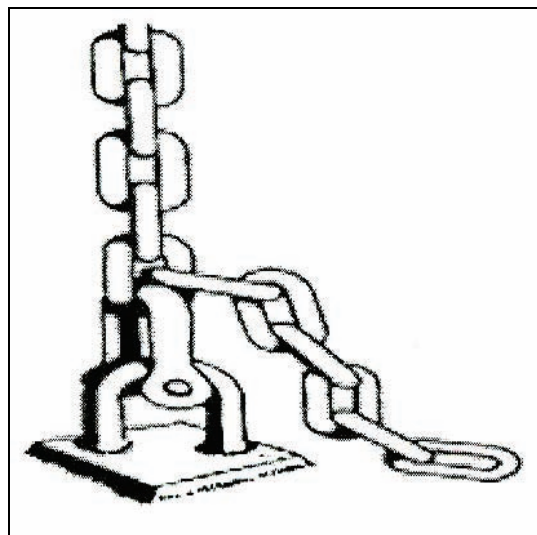

Figure 3-24. Shackling the Bull Chain to the Deck
- e. Raise the boom to the desired height; shackle the bull chain to the deck (see Figure 3-24).
- (1) Slack off the bull line slowly until the chain supports the weight of the boom.
- (2) Remove the bull line from the cathead and coil it around the cleat.
- f. Secure the bull line to the topping lift cleat by taking three (3) round turns on the cleats followed by three (3) figure eights.